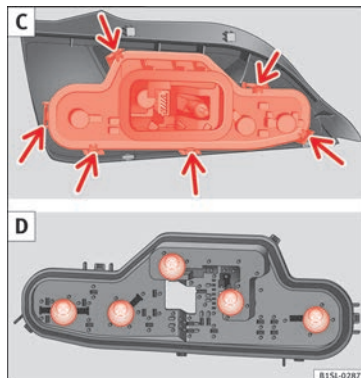

Fig. 89 Tail light unit: C: Remove the bulb holder, D: Remove the bulbs.
- Unlock the bulb holder locking tab (arrow) » Fig. 89 C and remove the bulb holder from the tail light.
- Replace the faulty bulb by a new identical bulb » Fig. 89 D.
- Place the bulb holder in the tail light unit. The attachment tabs (arrow) should audibly click into place » Fig. 89 C.